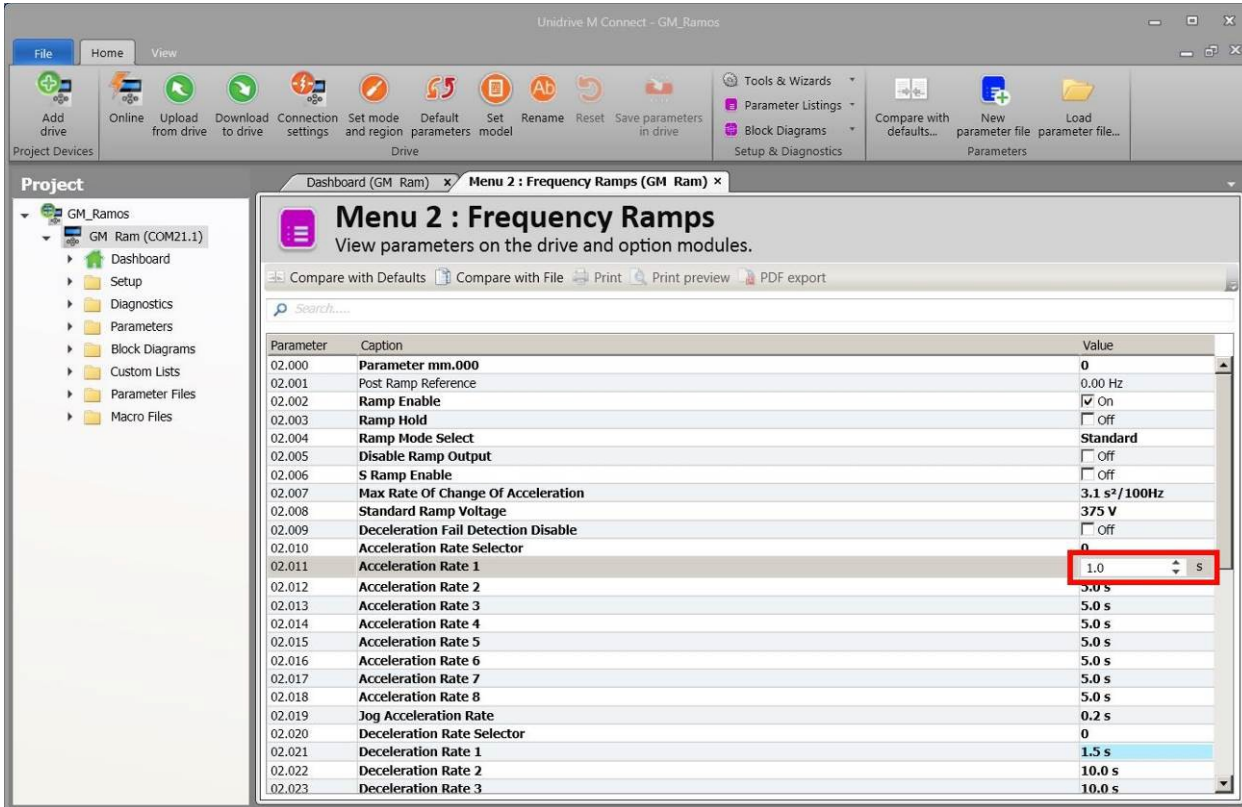

Figure 45
7. Select - Menu 2: Frequency Ramps (Accel/Decel rates). Please see Figure 45 below.